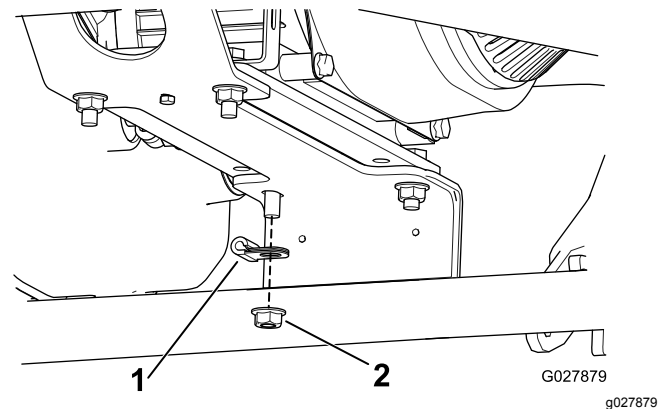

Figure 10
8. Attach the new throttle cable to the right, rear engine mounting location using the cable clip and the existing bolt, washer, and nut (Figure 10).